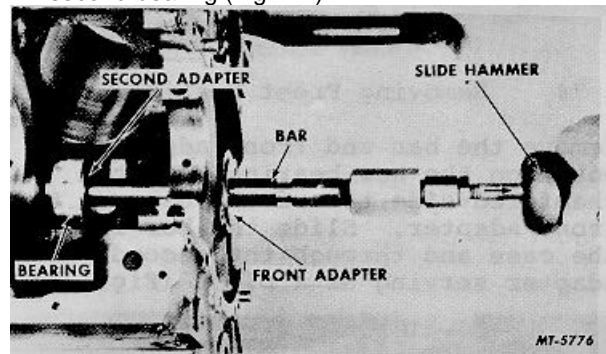

Fig. 72 Removing Second Bearing
1. Position the front adapter, SE-1897-3, in the front bearing (Fig. 72).
2. Position the second adapter, SE-1897-4, in the second bearing (Fig. 72).
4. Using the front adapter as a pilot, pull the second bearing with the slide hammer (Fig. 72).